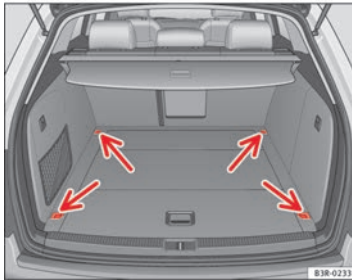

Fig. 115 Location of fastening rings in luggage compartment
- Use the fastening rings to secure the load ⇒ Fig. 115 -arrows-.